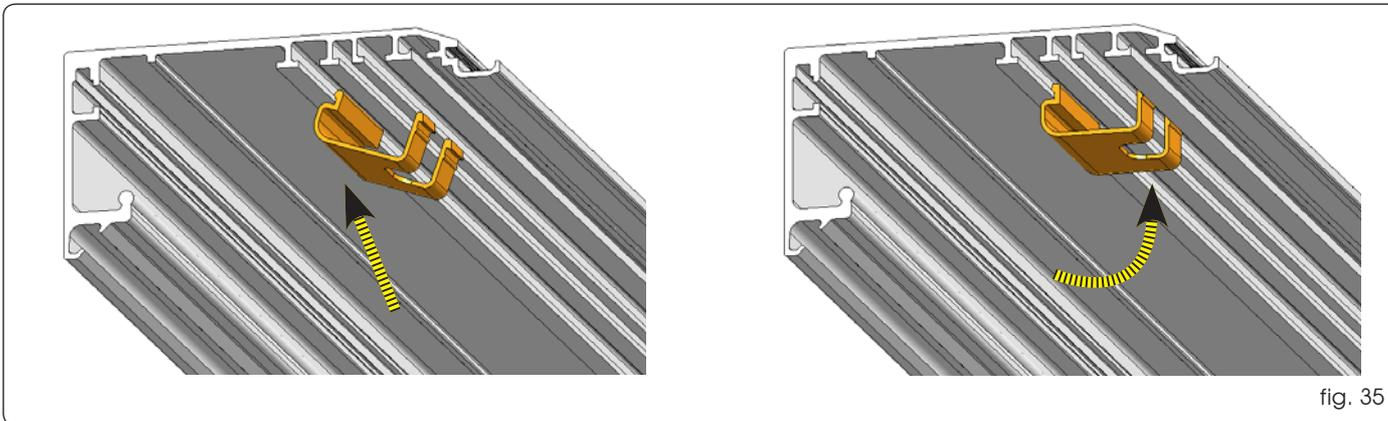

fig. 35
Install by pressure the cable raceways in the seat of the support profile as shown in Fig. 35.
- Use the raceways - suitably positioned (Fig. 35) - to route the cables inside the support profile, thus preventing them from coming into contact with moving parts.